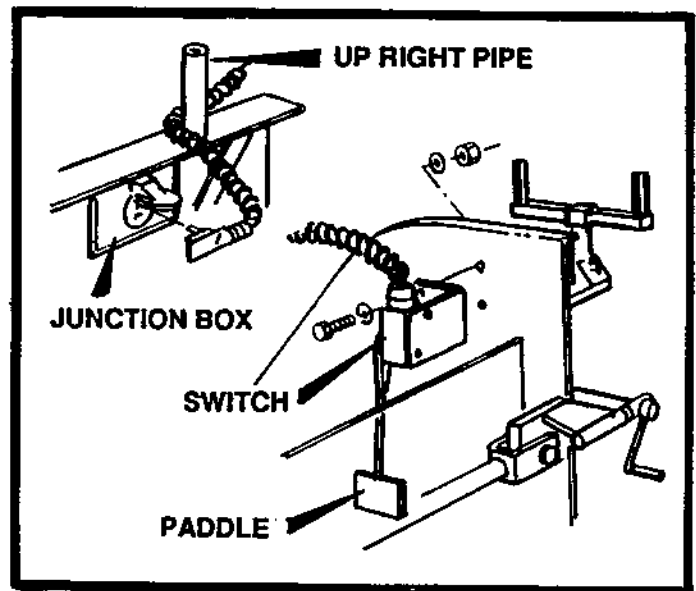

FIGURE 9
1. To install the paddle on the screed extension; extend the screed 6 inches and mount paddle on end gate as shown. Install the same way on left end gate. See figure 9.
2. The routing of the electric cord is shown in figure 9 for right side. The left side electric cord should be placed over top of screed lift bracket to the outlet box.